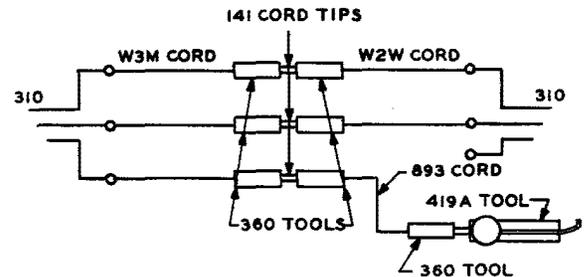

Fig. 2
2.13 Test cord assembly, shown in Fig. 2, consisting of the following: One W3M cord, 6 feet long, equipped with a No. 310 plug and one each of No. 360A, 360B, and 360C tools (3W4A cord); a W2W cord, 6 feet long, equipped with a No. 310 plug and No. 360B and 360C tools (2W17A cord); No. 893 cord, 6 feet long, with No. 360 tools at each end (1W13B cord); a No. 419A tool and three No. 141 cord tips (for connecting test set to older trunk finders whose test jack is located in a jack panel).
- 11 Insert plug of W3M cord (Fig. 2)